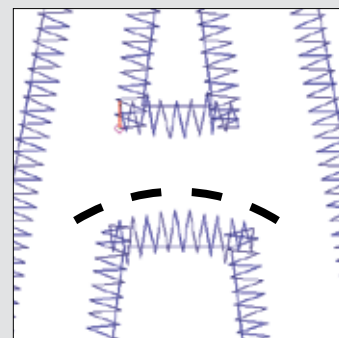

Figure 29. The completed edit.
7. Repeat the process for the stitches in the bottom row of the "island" in the "A". Use **Figure 29** as a guide.